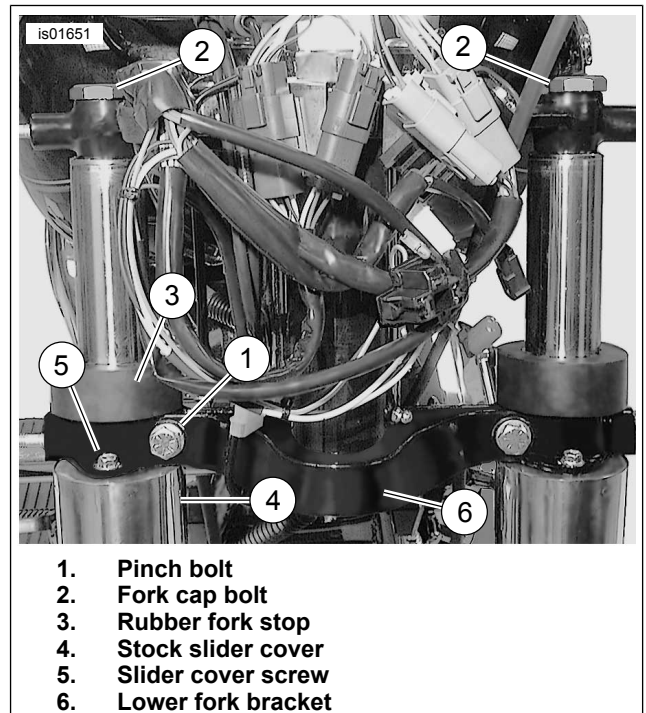

Figure 1. Fork Components (FLHR/C/S Shown)
3. See Figure 1. Standing at front vehicle, loosen pinch bolt (1) (with lockwasher) on left side of lower fork bracket, but do not remove.
4. Loosen fork cap bolt (2) from fork tube plug at top of fork tube, but do not remove at this time.
5. Spray glass cleaner on fork tube above the rubber fork stop (3). After lubricating surface, move rubber fork stop up fork tube until it contacts bottom of upper fork bracket.
6. Holding fork slider to prevent fork from dropping, remove fork cap bolt (2) from fork tube plug. Slide fork tube down and out of upper fork bracket, rubber fork stop (3), lower fork bracket (6) and slider cover (4).
7. Thread fork cap bolt (2) back onto fork tube plug to prevent loss of fork oil while handling.
8. Remove the two screws (5) securing the existing slider cover (4) and remove and discard cover. Save screws for installation.
10. See Figure 1. Remove the fork cap bolt (2) from the fork tube plug.
11. See Figure 1. Standing at front of vehicle, slide fork through new slider cover, lower fork bracket (6), fork stop (3), and upper fork bracket. Install fork cap bolt (2).